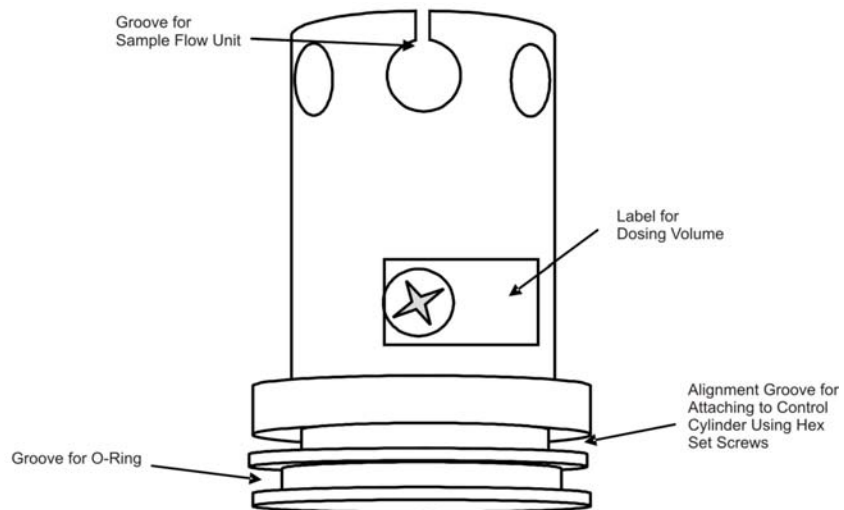

Figure 4-49: Liquid Injection Valve Body
3.	<p>This step is only necessary if using the less common cross-hole stem and should only be executed if the entire valve including the vaporizer is removed from the analyzer.</p> <p>Rotate the vaporizer (16) using a 6mm wrench until the carrier gas inlet (18) is parallel to the sample flow unit (15). The carrier gas should flow through the hole in the stem when injecting.</p>
4.	<p>If the entire valve was completely removed from the analyzer (including the flange and vaporizer), reinstall it at this time, but do not connect control lines, sample lines, or carrier gas.</p> <p>When installing the valve, adjust the valve body (7) so that sample will flow vertically through the valve. This is necessary to prevent bubbles from forming in the valve.</p>
5.	<p>Position the control cylinder (1), and tighten the two hex set screws (2) on the side. The screws must firmly grip the groove in the valve body (5) wall. Refer to Figure 4-49.</p>